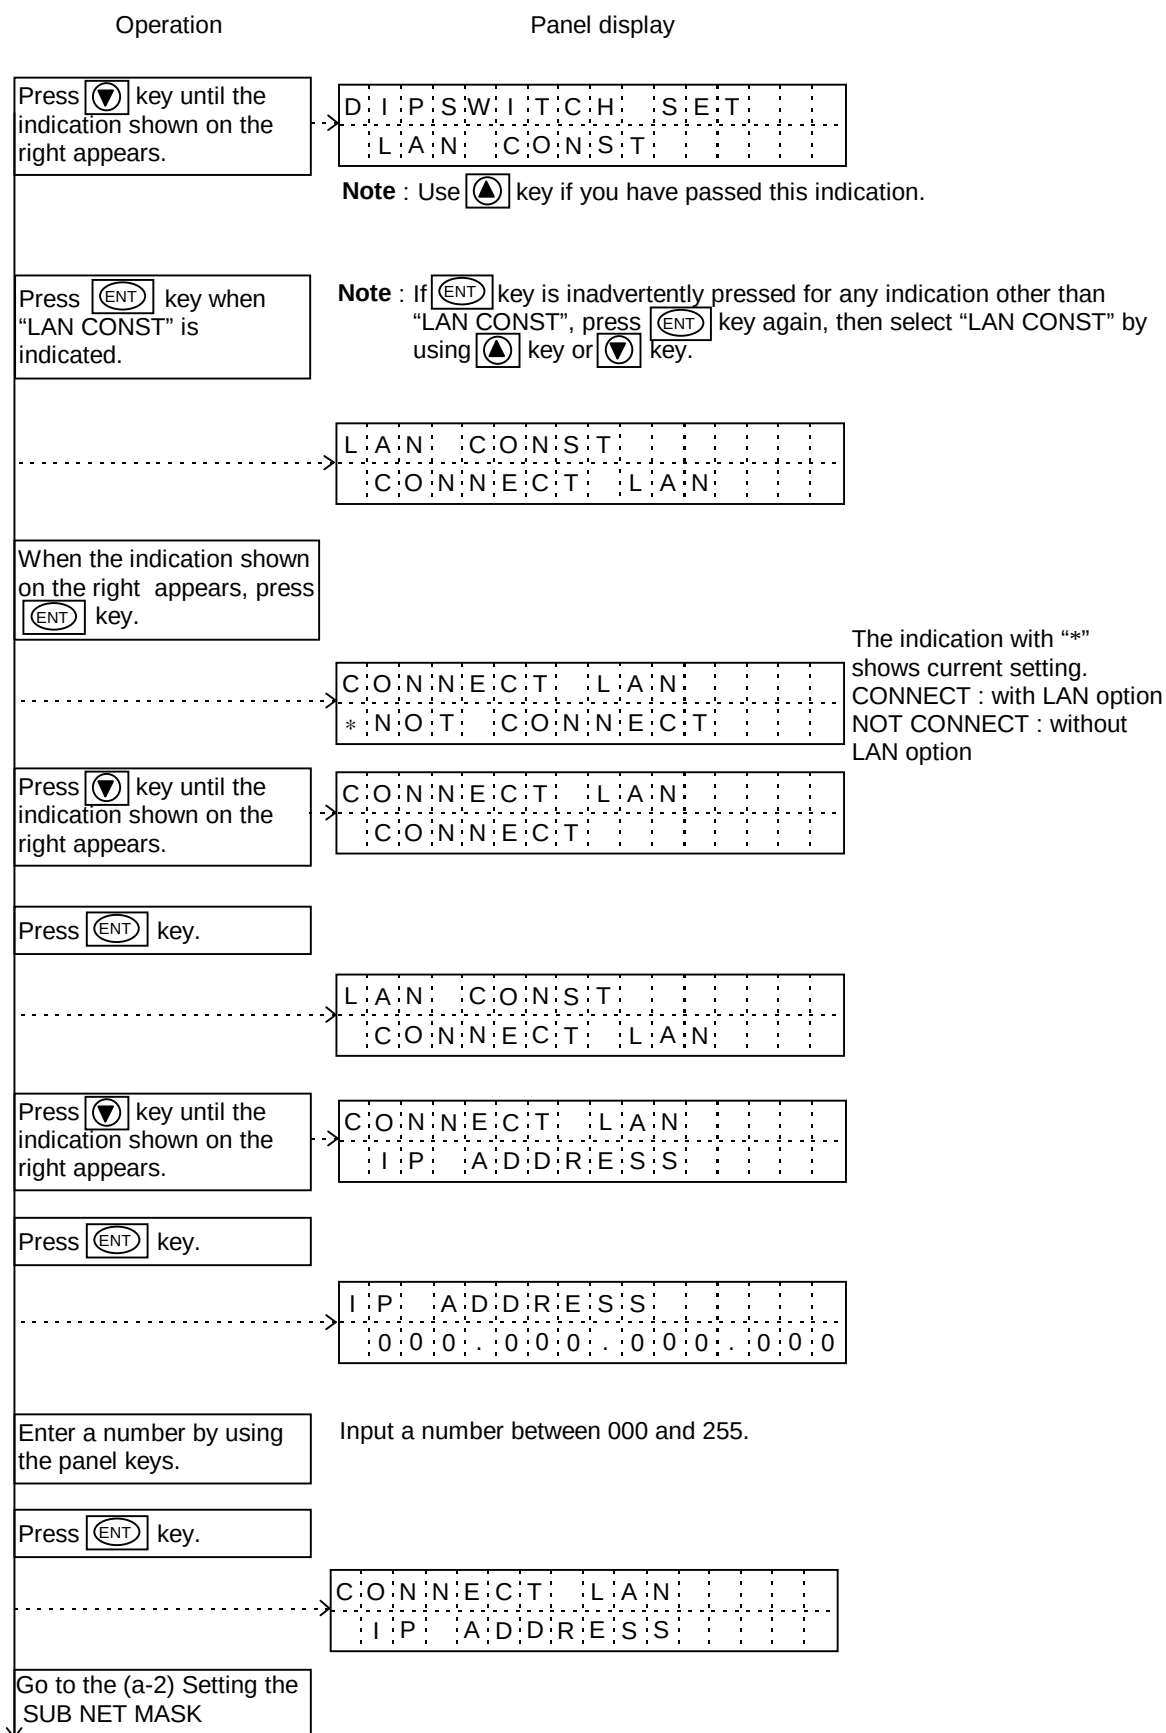

Figure 4.1.1 DIP switches (For setting the system parameter)
- (1) Before powering on the subsystem, set DIP switches No. 4 and 6 as shown in Figure 4.1.1 .